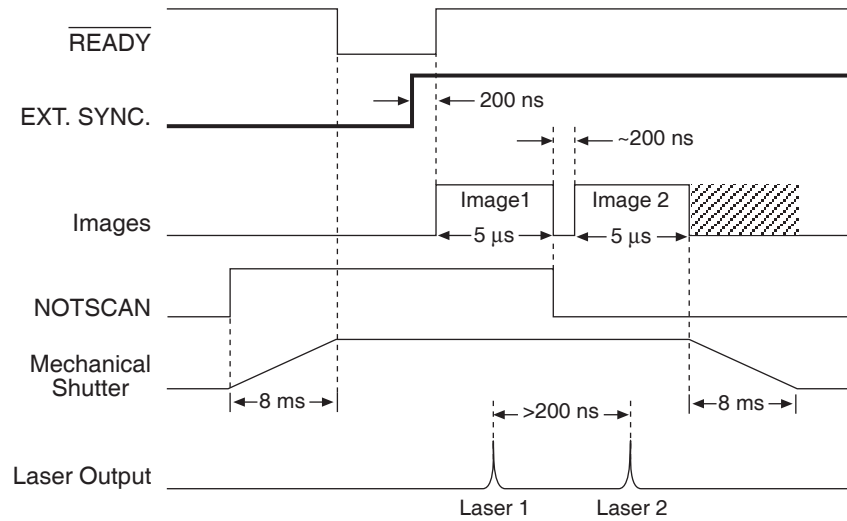

Figure 54. Timing Diagram for Typical IEC Measurement
In this mode, a single external trigger applied to **Ext Sync** initiates two successive image acquisitions of equal duration. The Exposure Time is set in software (Experiment Setup **Main** tab page and elsewhere) the same as in a standard system and can be as short as  $1\ \mu\text{s}$ . On initiating the acquisition (**ACQ** button or **Acquire** on the Acquisition menu), the initialization routine runs and the shutter opens. When the shutter is completely open, **READY** drops low and remains in that state until an external trigger is applied to **Ext Sync**. Continuous cleaning takes place until the trigger is applied. When the trigger is sensed, the first exposure begins and the first image is captured (shifted under the masked columns and held there). The exposure for capture of the second image begins. This sequence is illustrated in Figure 54.
**Example 1:** An external trigger initiates the imaging process. **READY** goes low when the system is ready. Once **READY** is low, an external trigger applied to **Ext Sync** initiates the double image capture. Figure 54 illustrates the timing for a typical IEC experiment with an exposure time of  $5\ \mu\text{s}$ .